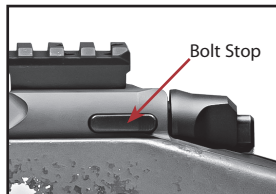

Figure 26-1
7. Depress the rear surface of the bolt stop and remove the bolt rearward (Figure 26-1).